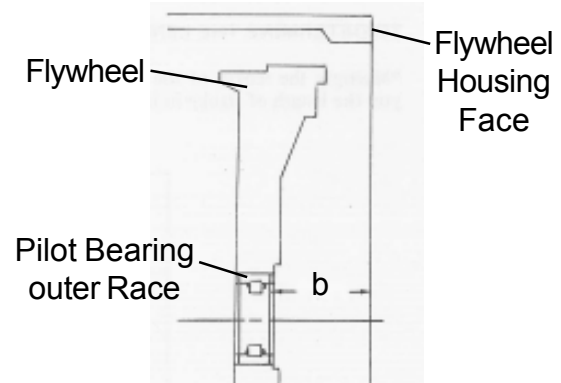

Figure 7
4. Refer to the chart below. Subtract the appropriate roller bearing nominal width (c) from measurement (a). This will determine the position of the pilot bearing outer race in the flywheel bore (dimension b). See figure 7.
5. Install the pilot bearing outer race in the flywheel and position it at dimension (b). (See figure 7)